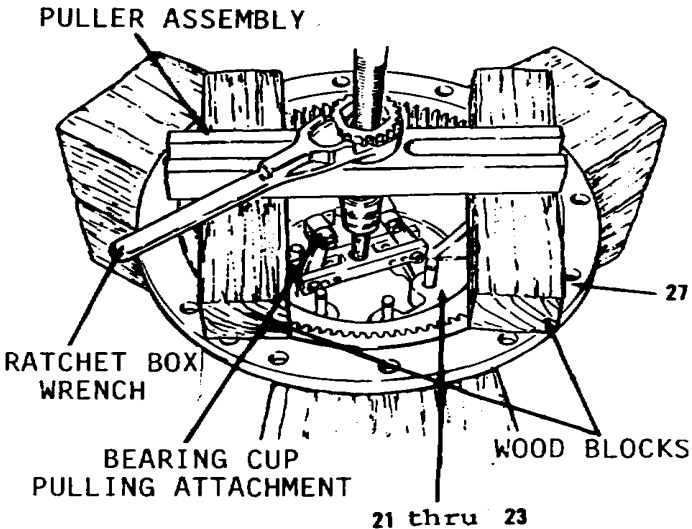

Figure 14-154.
- 19. Using wood blocks, bearing cup pulling attachment, ratchet box wrench and puller assembly, remove items 21 thru 23 as an assembly from housing (27, Figure 14-154).